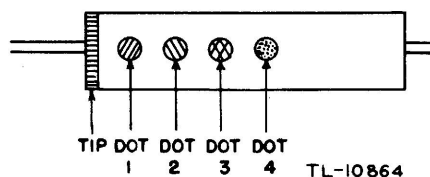

Fig 6. Tubular ceramic capacitors: RMA color code
6. TUBULAR CERAMIC DIELECTRIC CAPACITORS. Tubular ceramic dielectric capacitors are sometimes marked according to the RMA color code shown in figure 6. The negative temperature coefficient is indicated by the color of the band or tips at one end of the unit, the capacitance in micromicrofarads is shown by the first three dots; the capacitance tolerance, either in percent or tenths of a micromicrofarad,